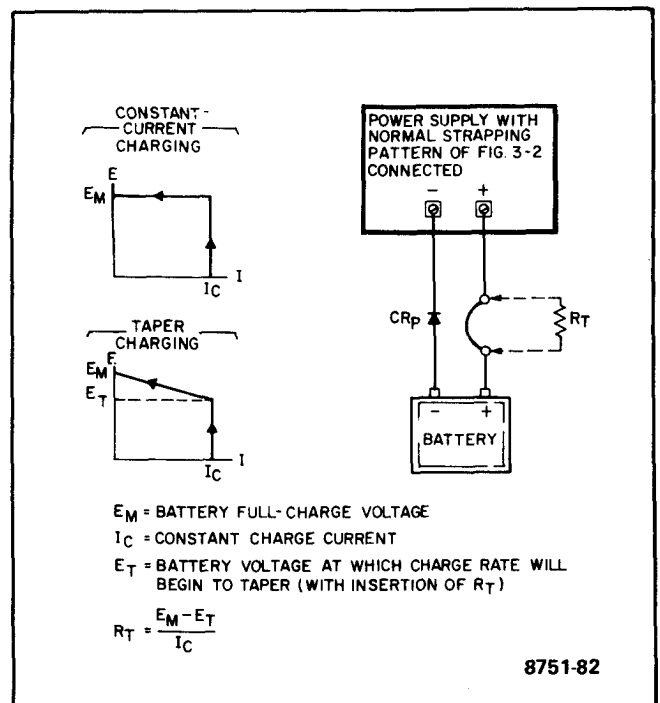

Figure 3-16. Battery Charging
Any time these supplies are used to charge a battery, be sure to install a protective diode CR_p in series with the battery as shown in Figure 3-16 to prevent the battery from discharging into the supply if the supply is turned off. Extensive damage to the supply could result if this diode were omitted.
- b. Connect a short circuit across the output terminals and rotate the VOLTAGE control fully clockwise (CW).
- e. Adjust the VOLTAGE control for an output voltage 0.7 volts greater than the desired full charge voltage. (The added 0.7 volts compensates for the drop across CR_p.) The supply may then be connected to the battery terminals, positive to positive and negative to negative as shown in Figure 3-16 (omit R_T).
3-90 Taper Charge. When charging lead-acid cells, many manufacturers recommend that the charging current be reduced as the charge nears completion. This can be accomplished by inserting a small resistance (R_T) in series with one of the load leads from the supply to the battery. (See Figure 3-16.) This resistor alters the normally rectangular charging plot in such a manner as to provide a taper charge for the last portion of the charge. The proper value for this resistor is the difference between the full charge voltage and the voltage at which the tapering is to start, divided by the initial charging current. Set the initial charging rate and full charge voltage as instructed in paragraph 3-89.